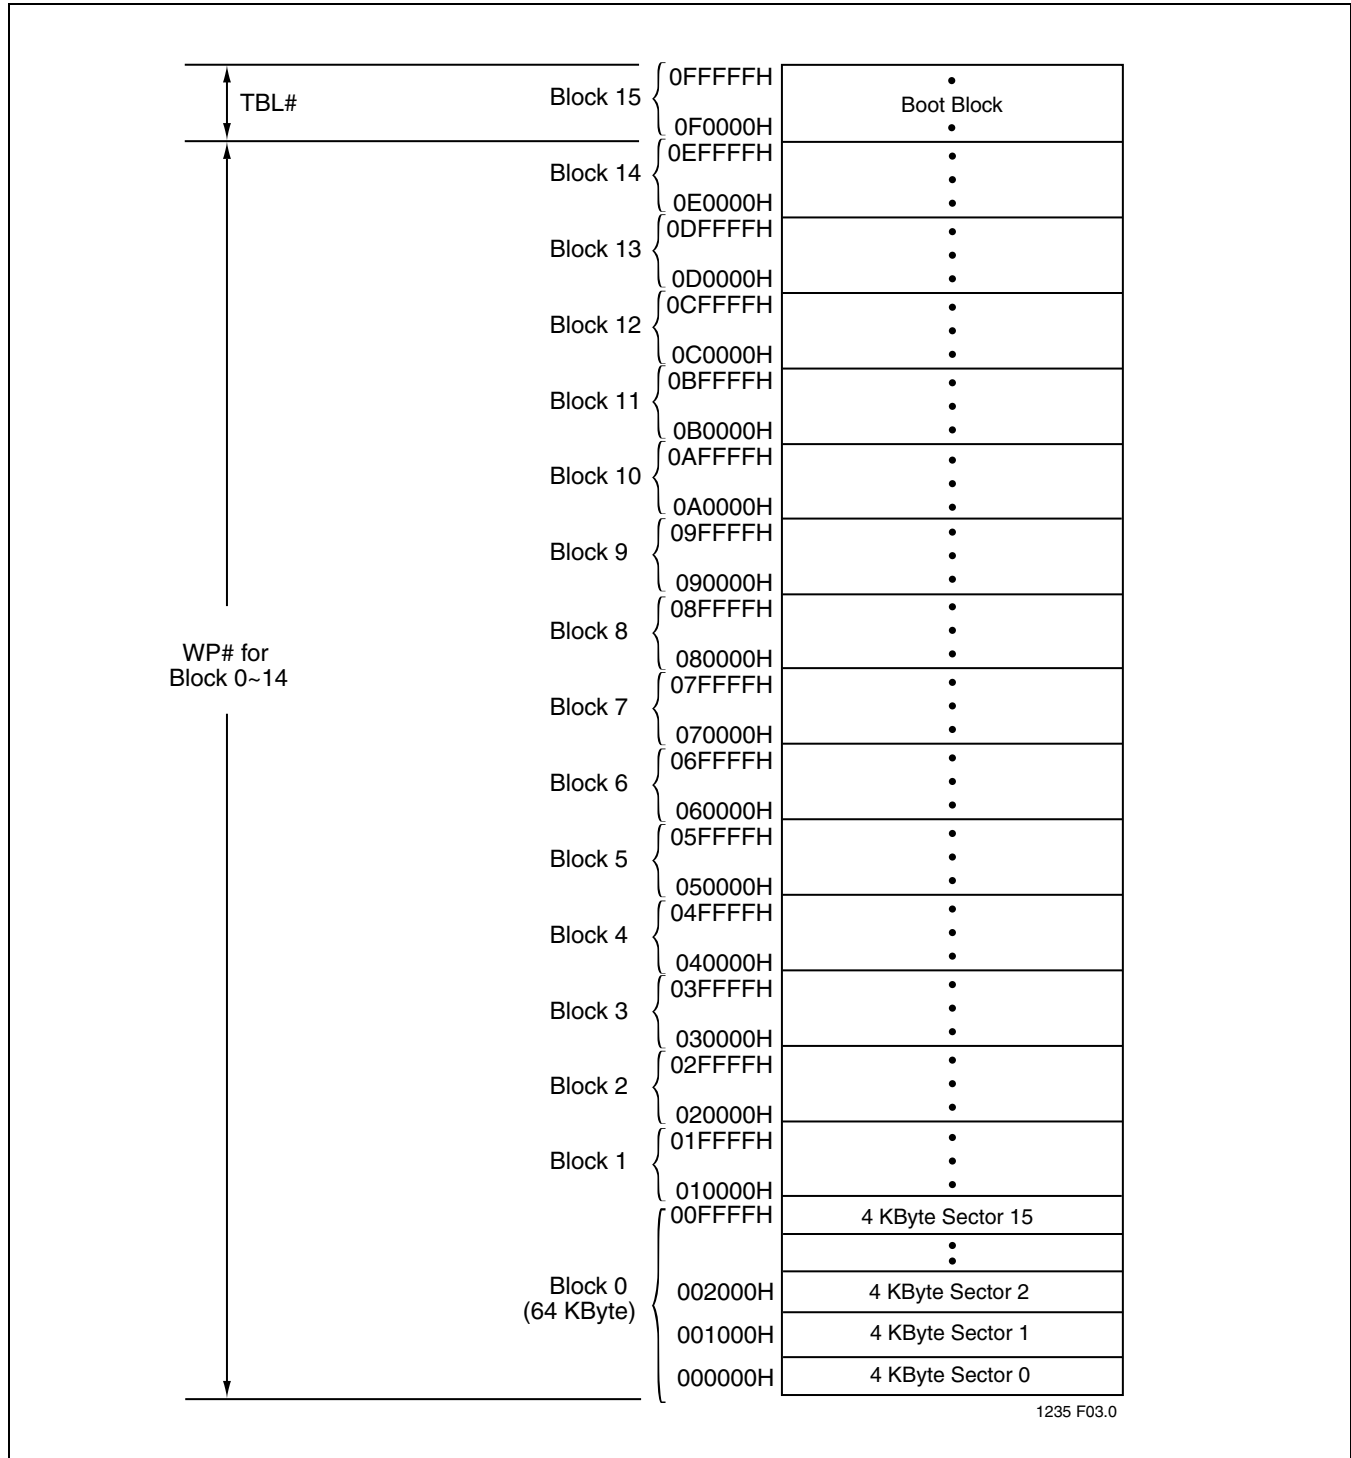

FIGURE 4: Device Memory Map
The SST49LF080A flash memory devices can operate in two distinct interface modes: the LPC mode and the Parallel Programming (PP) mode. The mode pin is used to set the interface mode selection. If the mode pin is set to logic High, the device is in PP mode. If the mode pin is set Low, the device is in the LPC mode. The mode selection pin must be configured prior to device operation. The mode pin is internally pulled down if the pin is left unconnected. In LPC mode, the device is configured to its host using standard LPC interface protocol. Communication between Host and the SST49LF080A occurs via the 4-bit I/O communication signals, LAD [3:0] and LFRAME#. In PP mode, the device is programmed via an 11-bit address and an 8-bit data I/O parallel signals. The address inputs are multiplexed in row and column selected by control signal R/C# pin. The row addresses are mapped to the lower internal addresses ( $A_{10-0}$ ), and the column addresses are mapped to the higher internal addresses ( $A_{MS-11}$ ). See Figure 4, the Device Memory Map, for address assignments.